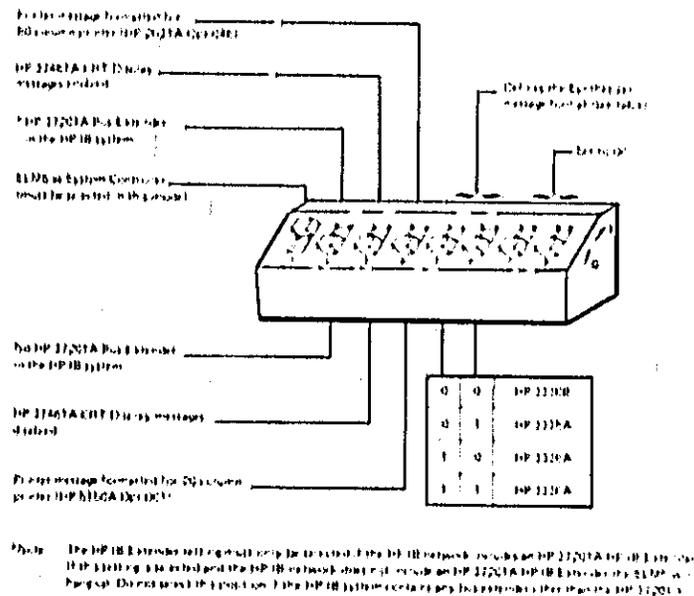

Figure 2-5 HP-IB Switch Settings – SLMS as System Controller
2-45 The setting of the CNTRL switch (see Figure 2-5) on the SLMS rear panel to the CNTRL ON (1) position configures the SLMS as the system controller.
message format is required for the particular devices connected into the HP-IB. The switch settings are explained and illustrated in Figure 2-5. For detailed descriptions of the message formats transmitted by the SLMS see Section V.